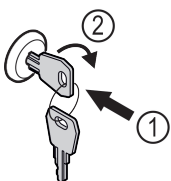

Fig. 91 Example illustration
- ▶ Insert key Fig. 91 (1).
- ▶ Turn key clockwise by 90° Fig. 91 (2).